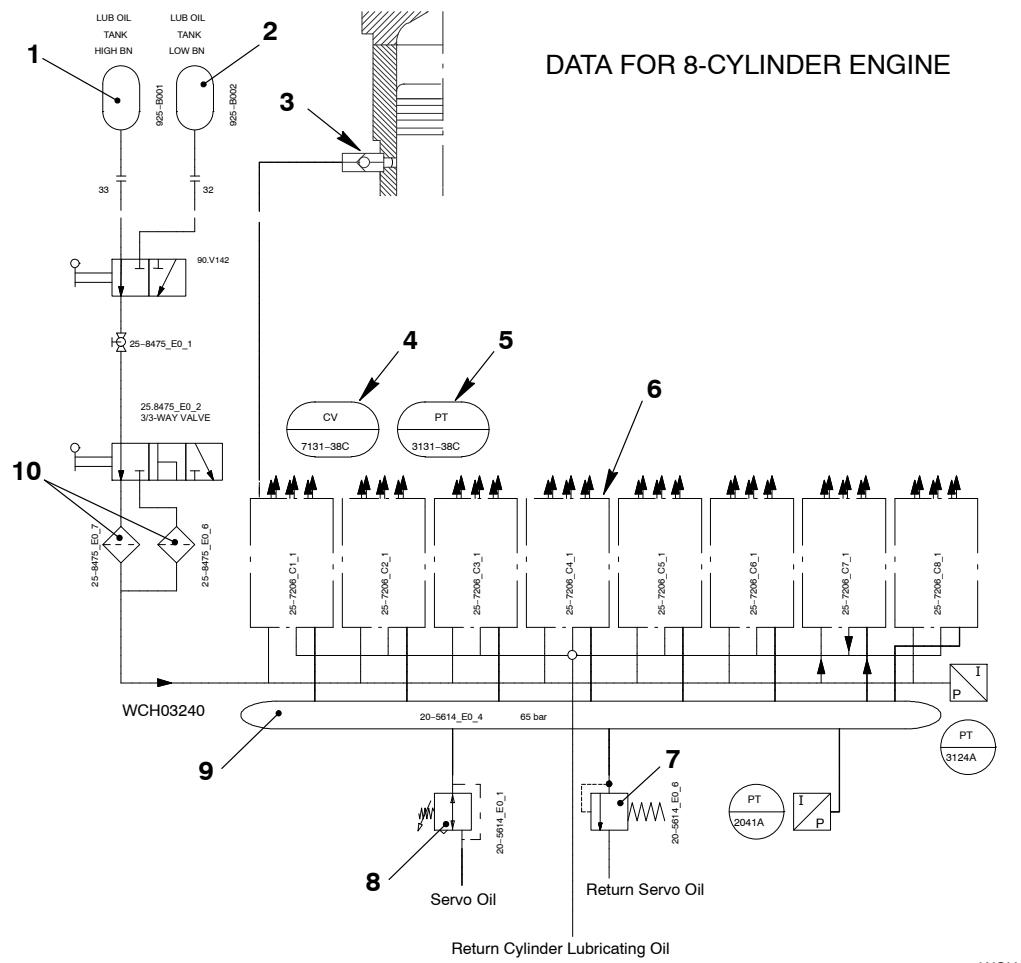
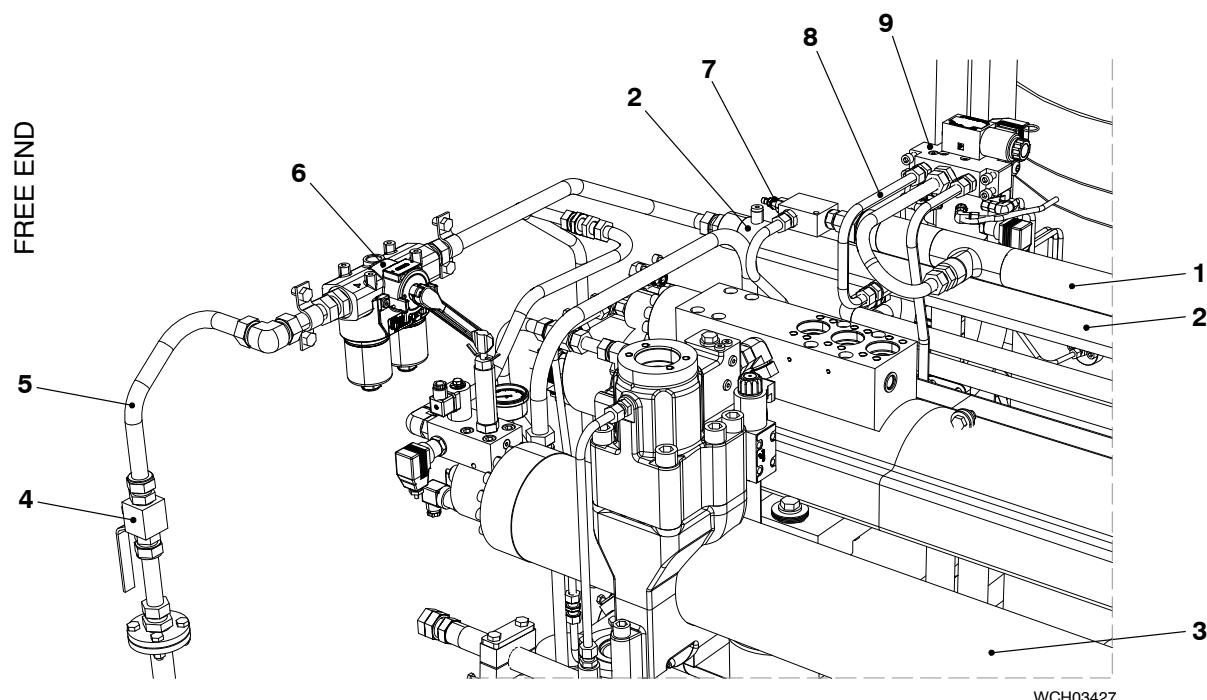
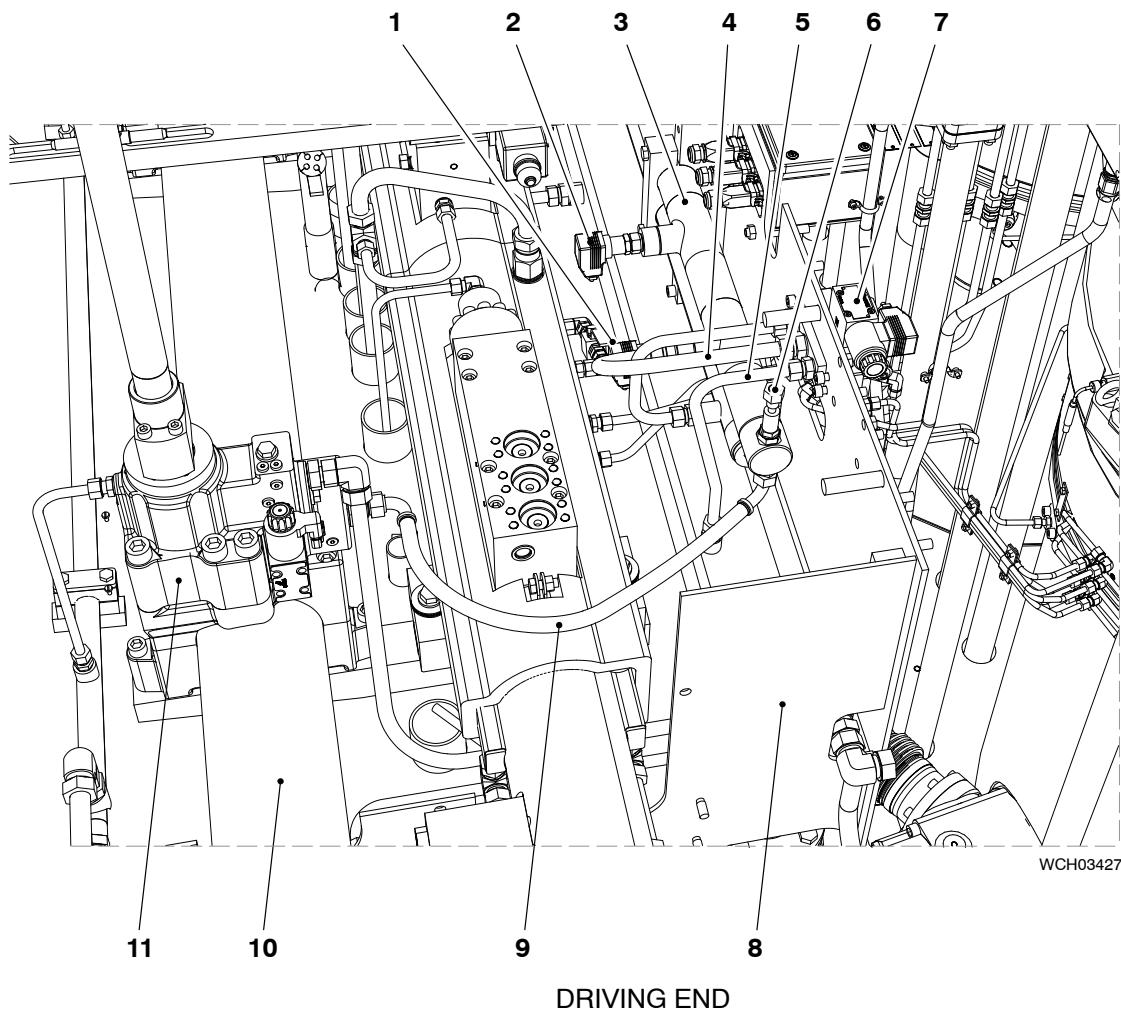

Fig. 1: Schematic Diagram – Cylinder Lubricating System
Fig. 2: Cylinder Lubricating Oil Supply
Fig. 3: Cylinder Lubricating System – Servo Oil Supply
There are two cylinder lubricating oil tanks (1 and 2, Fig. 1) installed in the plant. The cylinder lubricating oil tanks are installed at a specified height above the engine. This lets static pressure move the cylinder lubricating oil down through the duplex filter (10).
Fig. 1 shows the full system, which has the components that follow:
Cylinder lubricating oil from the cylinder lubricating oil tanks (1 and 2, Fig. 1) flows through the lubricating oil inlet pipe (5, Fig. 2) to the duplex filter (6). The filtered cylinder lubricating oil flows through the lubricating oil inlet pipe (8) to the cylinder lubricating pumps (9).
The pressure transmitter PT3124A (1, Fig. 3) monitors the pressure in the lubricating oil supply pipe (2, Fig. 2). If there is no lubricating oil supply pressure (less than 0.1 bar), the pressure transmitter PT3124A sends an alarm signal (Pulse lubrication inlet pressure Low) to the ECS (for more data, refer to 4002-1 Engine Control System, paragraph 3.7 Cylinder Lubricating Control).
Servo oil from the servo oil rail (10, Fig. 3) flows through the exhaust valve control unit (11) to the servo oil inlet pipe (9). Servo oil then flows through the servo oil supply pipe (3) and the servo oil inlet (4) into the cylinder lubricating pumps (7). The servo oil operates the cylinder lubricating pumps. For more data, refer to paragraph 5.